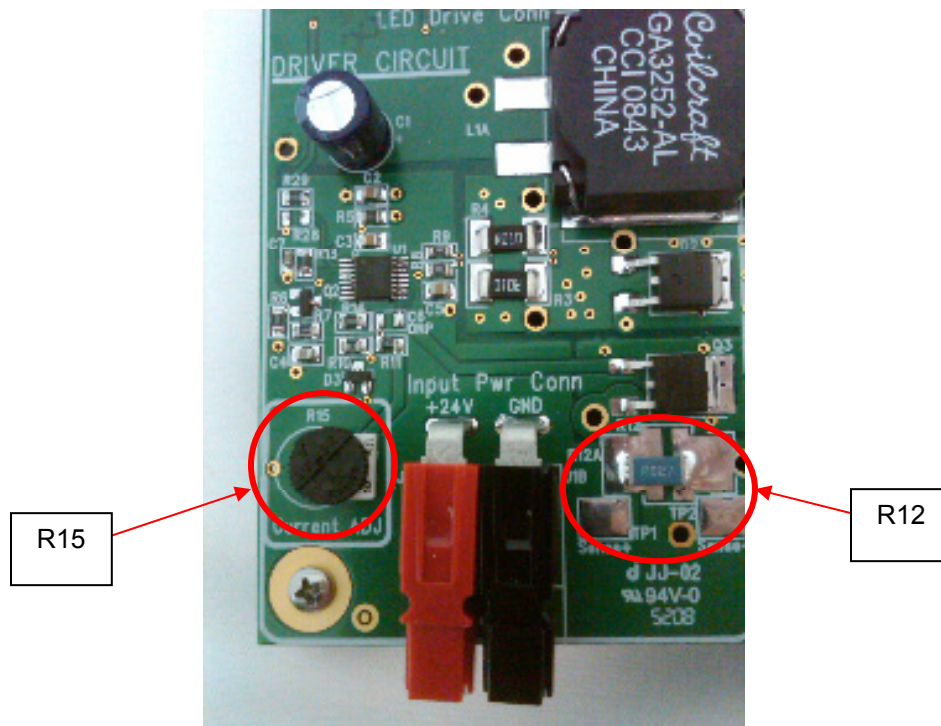

Figure 3: Driver Locations for R12 and R15
To measure the current going to the LED, use a volt meter and measure the voltage across the sense resistor on the driver board, which is located at the “R12” position. The pads marked Sense+ and Sense- can also be used for easier access. (See Figure 3 for details) The current can then be calculated by the following formula:
3. Use the on board Potentiometer R15 to adjust the current to the LED. (See figure 3 for details)